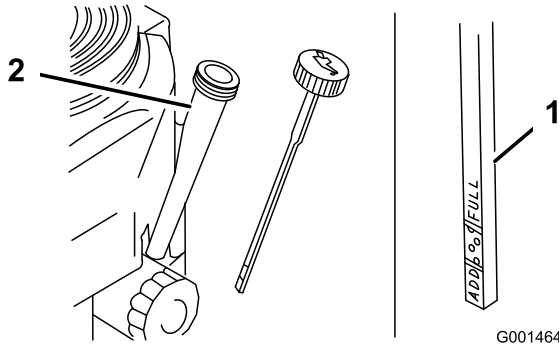

Figure 22
4. Clean around the oil dipstick (Figure 22) so that dirt cannot fall into the filler hole and damage the engine.
5. Unscrew the oil dipstick and wipe the end clean (Figure 22).
6. Slide the oil dipstick fully into the filler tube, but do not thread onto tube (Figure 22).
8. Slowly pour approximately 80% of the specified oil into the filler tube (Figure 22).